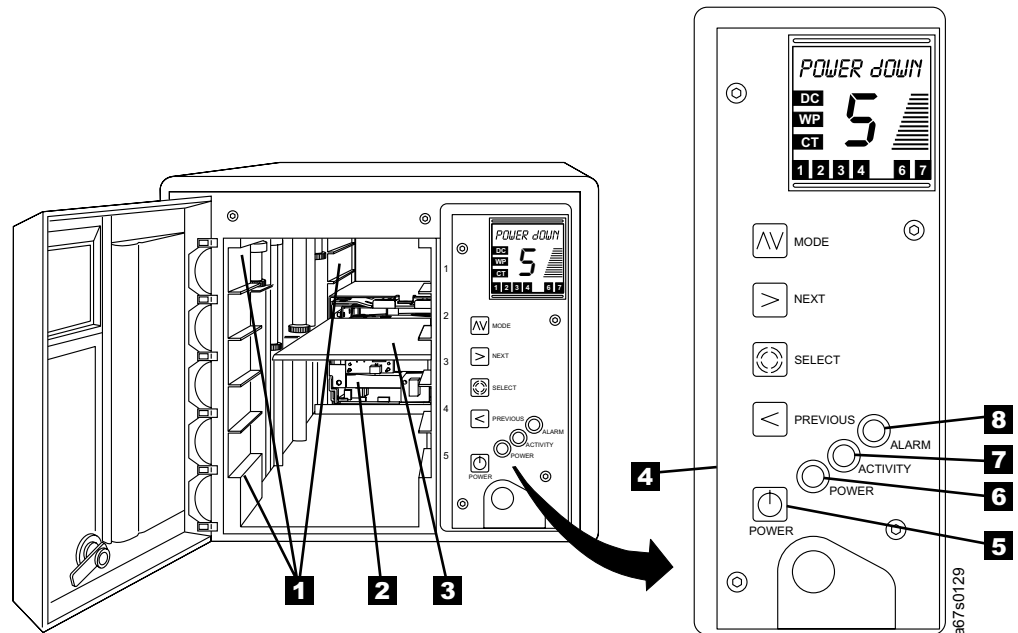

Figure 7. The 3581 Tape Autoloader with front door open
Open the front door of the autoloader to view the storage slots that hold the tape cartridges. The 3581 Tape Autoloader contains storage slots for up to seven tape cartridges. Five slots are located in the front and two are in the rear (see Figure 7 on page 19). From top to bottom, the front slots are numbered 1 through 5, and the rear slots are numbered 6 and 7. Figure 7 on page 19 shows the front and rear storage slots **1**.
The 3581 Tape Autoloader houses one IBM Ultrium Tape Drive that reads and writes data to and from tape cartridges, and a picker (robotics interface) that moves the cartridges to and from the drive and the storage slots. Whenever you issue a motion command from the operator panel or the server, the robotics interface causes the picker to move its metal tray up or down within the autoloader and use its front and back picker wheels to slide the cartridge that you specified onto the tray. It then positions the cartridge before the drive or the cartridge storage slot that you specified, and again uses its picker wheels to slide the cartridge into its destination. Figure 7 on page 19 shows the tape drive **2** and the picker **3**.
The operator panel (see **4** in Figure 7 on page 19) contains buttons, status lights, and a message display, all of which enable you to operate the 3581 Tape Autoloader. The sections that follow describe the components on the operator panel.
The POWER button (see **5** in Figure 7 on page 19) is a push button switch that lets you turn the power to the 3581 Tape Autoloader on or off.
**POWER** The green POWER light ( **6** in Figure 7) comes on whenever you turn on the power to the 3581 Tape Autoloader.
**ACTIVITY** The amber ACTIVITY light ( **7** in Figure 7) indicates robotic or drive activity. A slowly blinking light indicates robotic activity; a rapidly blinking light indicates drive activity.
**ALARM** The red ALARM light ( **8** in Figure 7) comes on whenever an error occurs. For a description of autoloader and drive error messages, see Table 6 on page 57. For a description of drive error codes, see Table 7 on page 61.